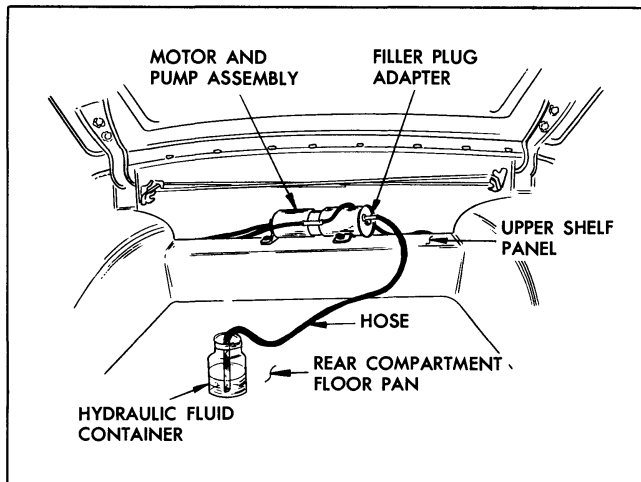

Fig. 22-69 Filling Hydro-Lectric Reservoir
d. Install opposite end of hose into a container of G.M. Hydraulic Brake Fluid Super #11 or equivalent (Fig. 22-69).